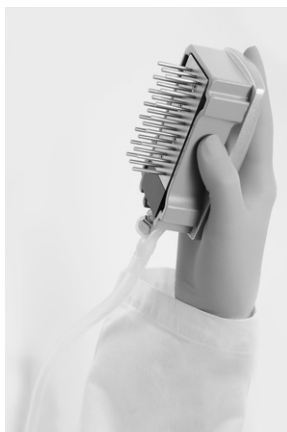

Figure 3. Illustration of the vacuum tool raised to beyond 90° vertical.
9. **Raise the vacuum tool up and back, beyond 90° vertical, for 5 s to drain liquid from the filter probes (Figure 3).**
14. **Raise the vacuum tool up and back, beyond 90° vertical, for 5 s to drain liquid from the filter probes (Figure 3).**
15. **Close the vacuum switch on the tool (Off), and place the vacuum tool in the Parking (P) position.**